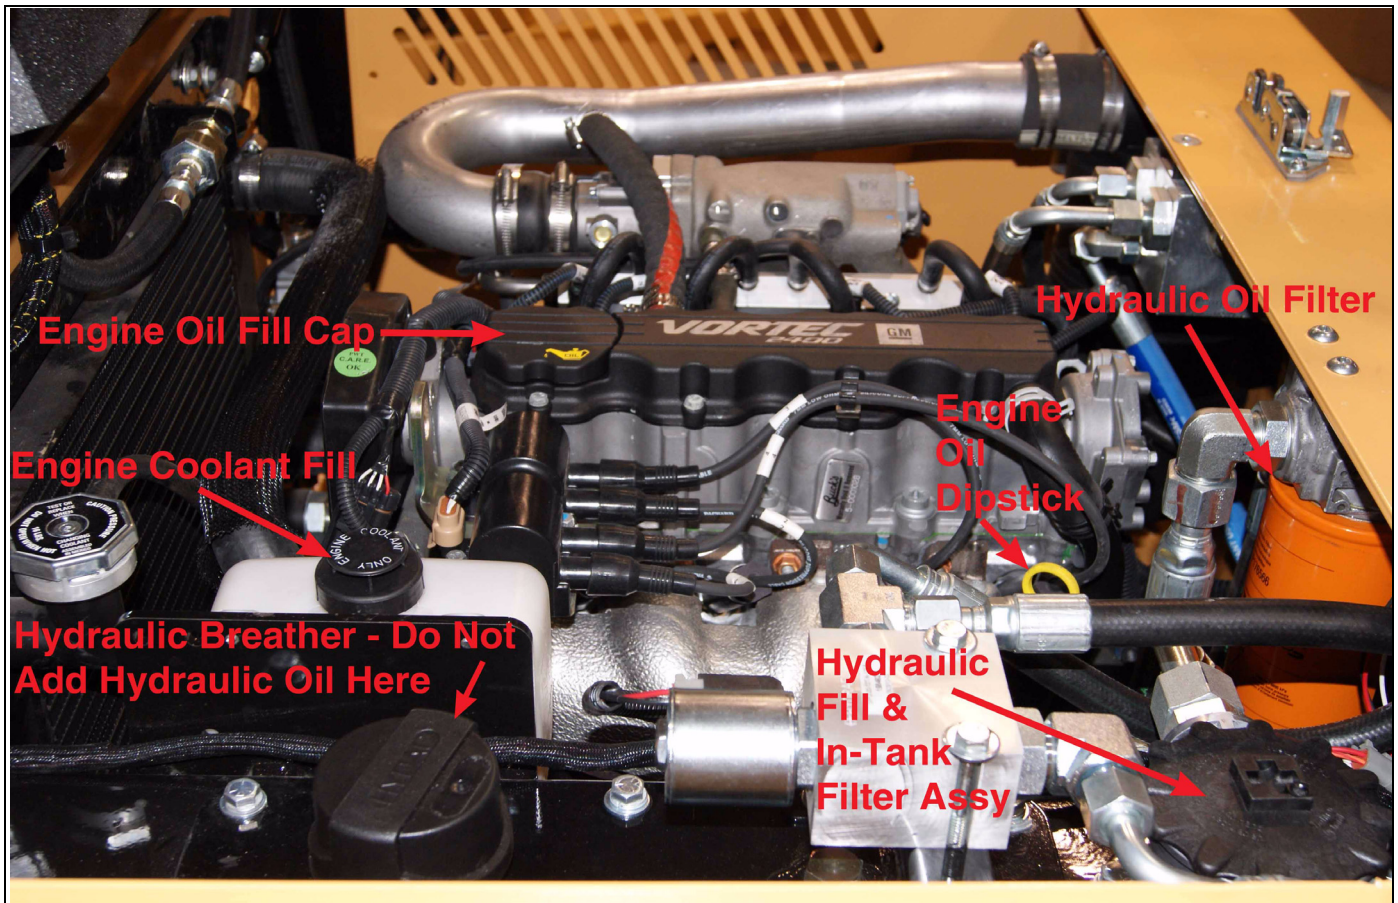

Figure 2-6: Engine Compartment Fluid Checks
6. Clean the area around the engine fill cap, then open the cap (turn counter clockwise). See Figure 2-6.